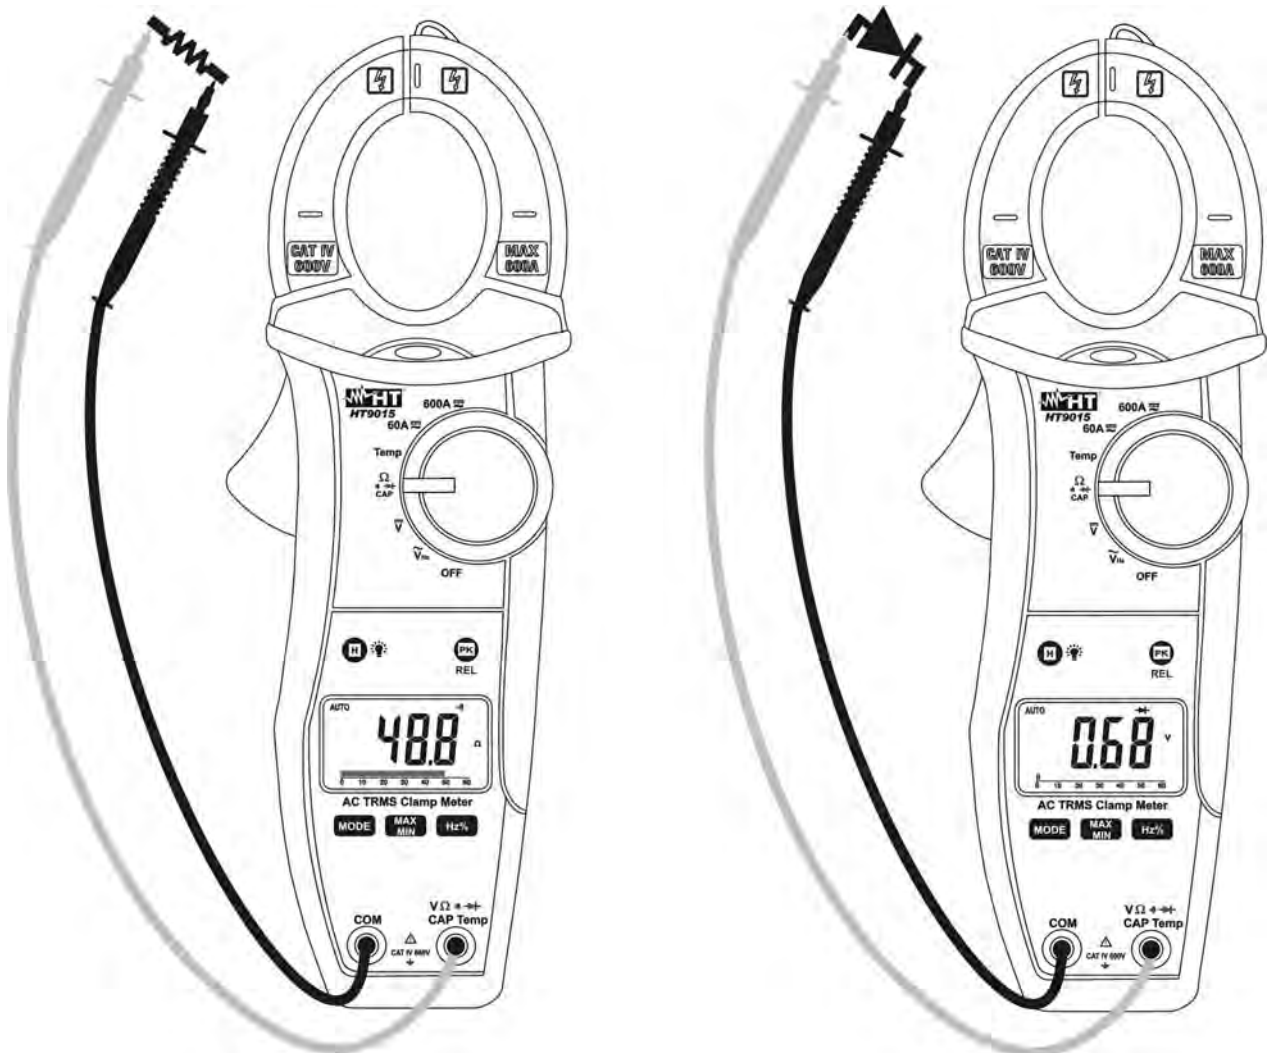

Fig. 6: Taking Continuity test and Diode test
3. Insert the red test lead plug into  $V \Omega \cdot \text{CAP Hz \% Temp}$  jack and the black test lead plug into **COM** jack and perform continuity test on the object under test (see Fig. 6 – left side). Buzzer emits sound if the measured resistance value is less about  $60\Omega$
5. Connect the red test leads to the anode of diode on test and the black test lead on the cathode ones (see Fig. 6 – right side). Reverse position of test leads to reading reverse polarization voltage